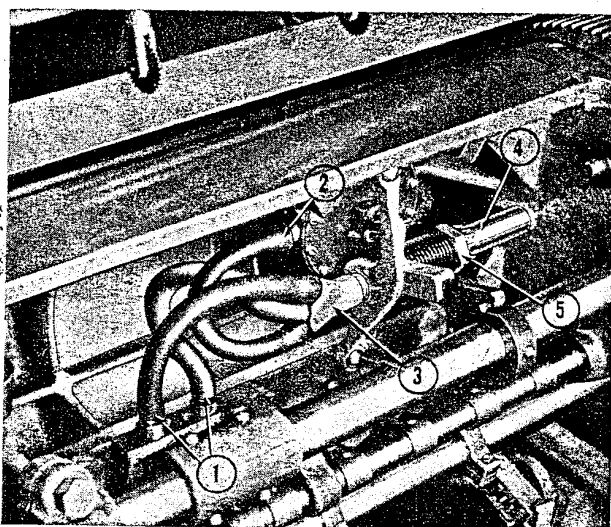

Figure 38—Hose Connections In Cylinder
(1) and the hose connected to cylinder trip diaphragm air nipple (2). (See figure 38.) Disconnect and remove three way hose fitting from cylinder trip diaphragm air tube, (3) figure 38.
(6) Loosen gripper bar clamp screws and remove gripper bar.
(7) Connect special blast hose to cylinder air tube at right end of cylinder. Turn and lock cylinder back in operating position and then close cylinder end guard. Start press motor, applying blast, and allow to run until cylinder trip diaphragm air tube, (4) figure 38, is clean.
(8) Connect special blast hose to three way hose fitting, previously removed, and blow out fitting and hoses connected to it.
(9) Apply blast to two gripper bar suction holes in cylinder.
(10) After lines have been thoroughly cleaned, open cylinder and replace all parts previously removed. Disconnect blast hose from feeder nozzle tube and replace plug. (If separator shoes or transfer table air lines are to be cleaned at this time, leave blast hose connected to feeder nozzle tube.)